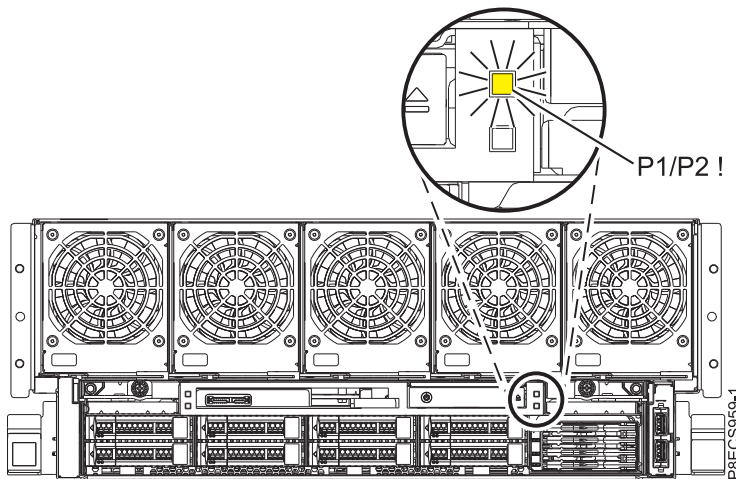

Figure 1. Front **P1/P2 !** fault roll-up LED on the 8408-44E or 8408-E8E system.
5. Note the state of the **P1/P2 !** fault roll-up LED, which is located on the front of your 8408-44E or 8408-E8E system as shown in Figure 1.